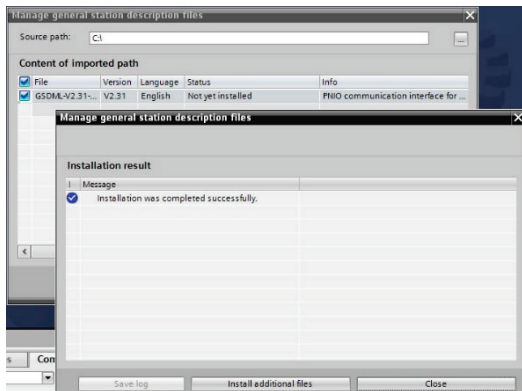

Figure 80: Successfully Installed GSDML File
2. Locate and select the GSDML file and click the **Install** button. Confirm that the installation was completed successfully as shown in Figure 80 and click the **Close** button. It is recommended to use the latest GSDML file, which is available via the product web page on the internet.